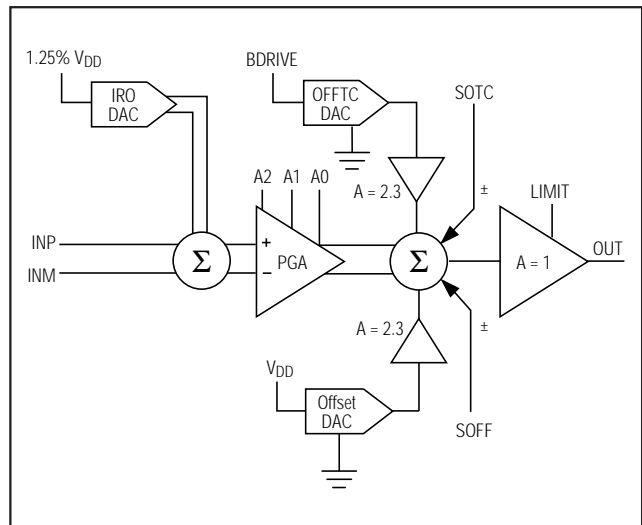

Figure 2. Signal-Path Block Diagram
V_{BDRIVE} that must be added to the output summing junction to correct the error. Use the Offset TC DAC to adjust the amount of $BDRIVE$ voltage that is added to the output summing junction (Figure 2).
- Differential to single-ended output buffer (Figure 2)